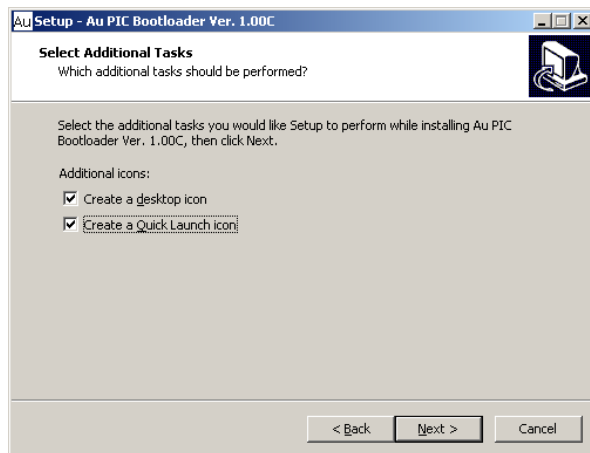

Figure C-6
6. “Select Additional Task” window shows up, check both “create a desktop icon” and “Create a quick launch icon”, and then click “next” to continue (Figure C-6).